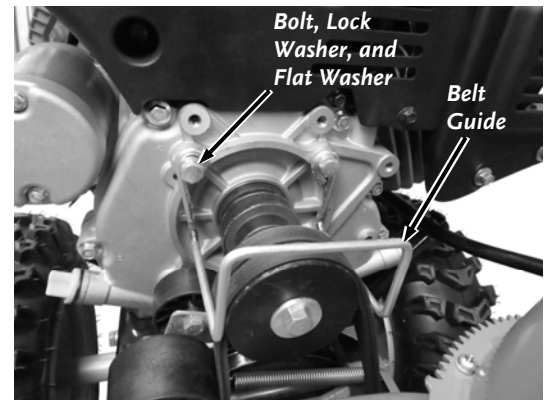

Figure 48
2. Remove the two Bolts, Lock Washers and Flat Washers that secure the Belt Guide to the Engine using a 13mm Wrench and remove the Belt Guide (**Figure 48**).
16. Install the Belt Guide and Belt Cover (**Figures 48 and 47**).